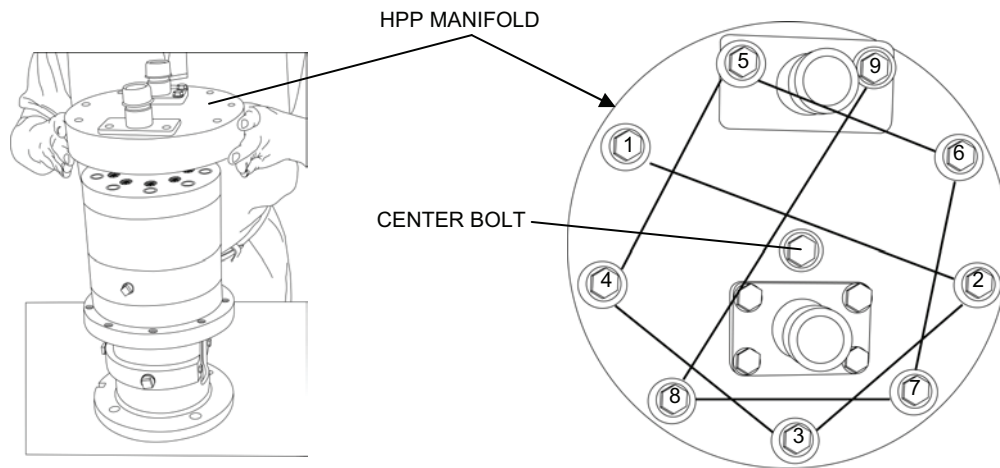

Figure 13. HPP Manifold Installation and Bolt Torque Sequence.
12. Install the manifold to the top of the valve housing (see Figure 13).
- b. Install the 9 bolts, 9 lock washers, and 9 flat washers at the outer diameter of the manifold. Torque the bolts to 150 in.-lbs. in the sequence shown in Figure 13.